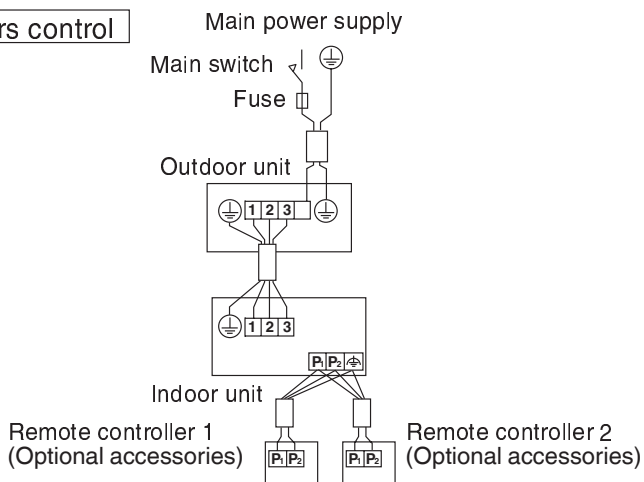

Fig. 27
- **2 remote controllers control:** 2 remote controllers control 1 indoor unit. (Refer to Fig. 27)